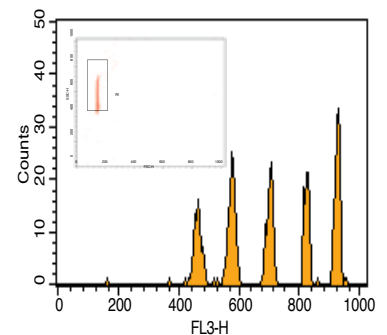

Figure 6
3. Using your flow cytometry analysis software, determine which beads produced positive results. The use of “back-gating” may simplify this task. (Figure 6).